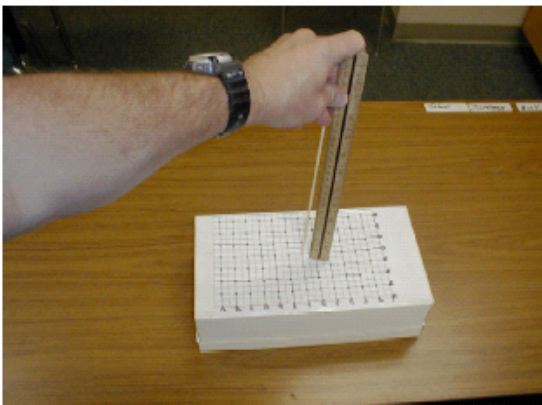
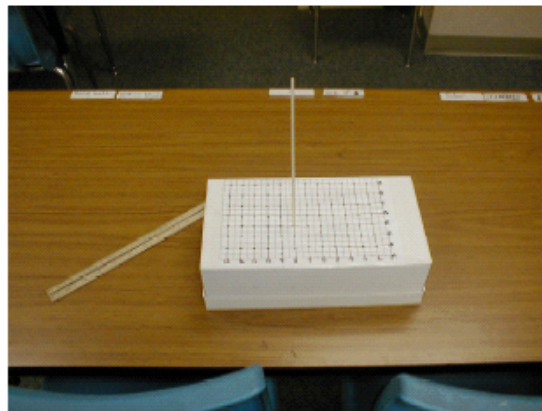

Figure 4
Figure 3
4. Demonstrate the procedure for using the wooden skewer to probe for the object. Remind them to stop when they touch the object, then measure the distance from the top of the box to the end of the stick. The students need to record this measurement on the correct spot on their data sheet. Be sure to remind them to measure in centimeters. Have them repeat this process until they have recorded all the measurements. (*see figure 3 and figure 4*)